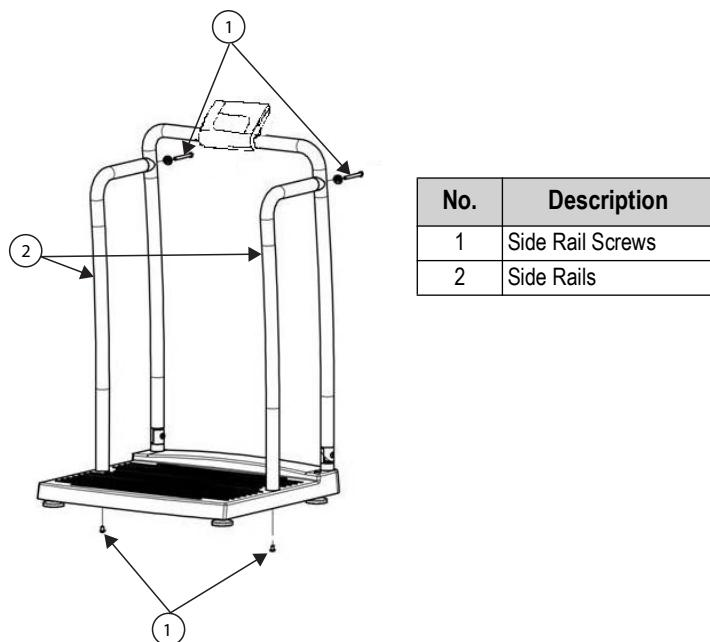

Figure 1. Side Rail Screw Locations
2. Use the hex wrench to remove side rail screws (see Figure 1).